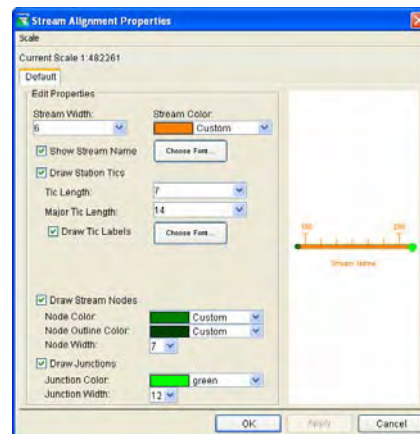

Figure 5.26 Stream Alignment Properties
4. The **Stream Alignment Properties** dialog box (Figure 5.26) will open.